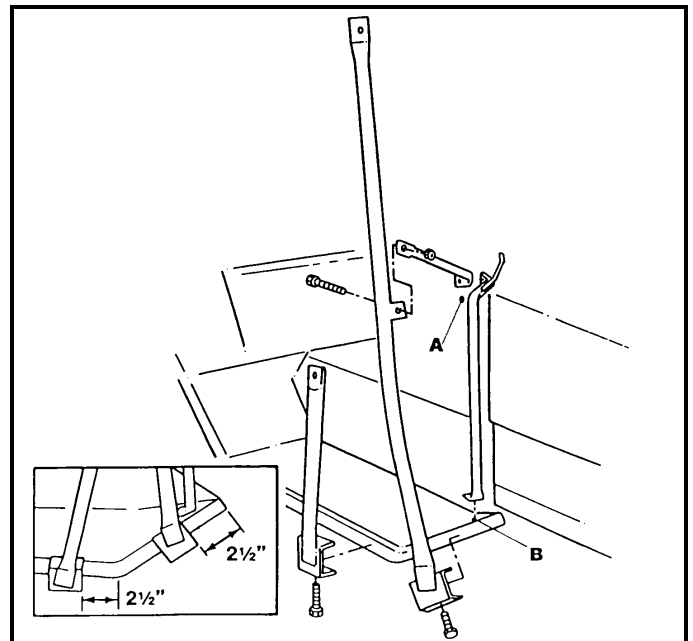

FIGURE 2
STEP 1; SEE FIGURE 2:
STEP 2; SEE FIGURE 2:
- B. Place the 'C' clamp over the outside edge of the step plate. Position the part about 2 1/2" from the front edge of the footplate. (See insert of figure 2) Tighten screw enough to hold part in position.
STEP 3; SEE FIGURE 2:
- B. Place the 'C' clamp over the outside edge of the step plate. Position the part about 2 1/2" from the bend of the footplate. (See insert of figure 2) Tighten screw enough to hold part in position.